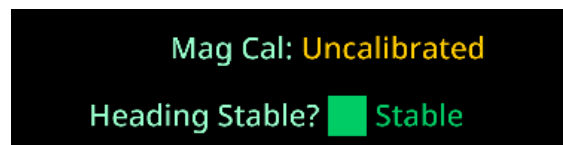

Figure 5-19: Mag Cal Heading Stable
19. Wait for both displays to indicate Heading Stable (see Figure 5-19).